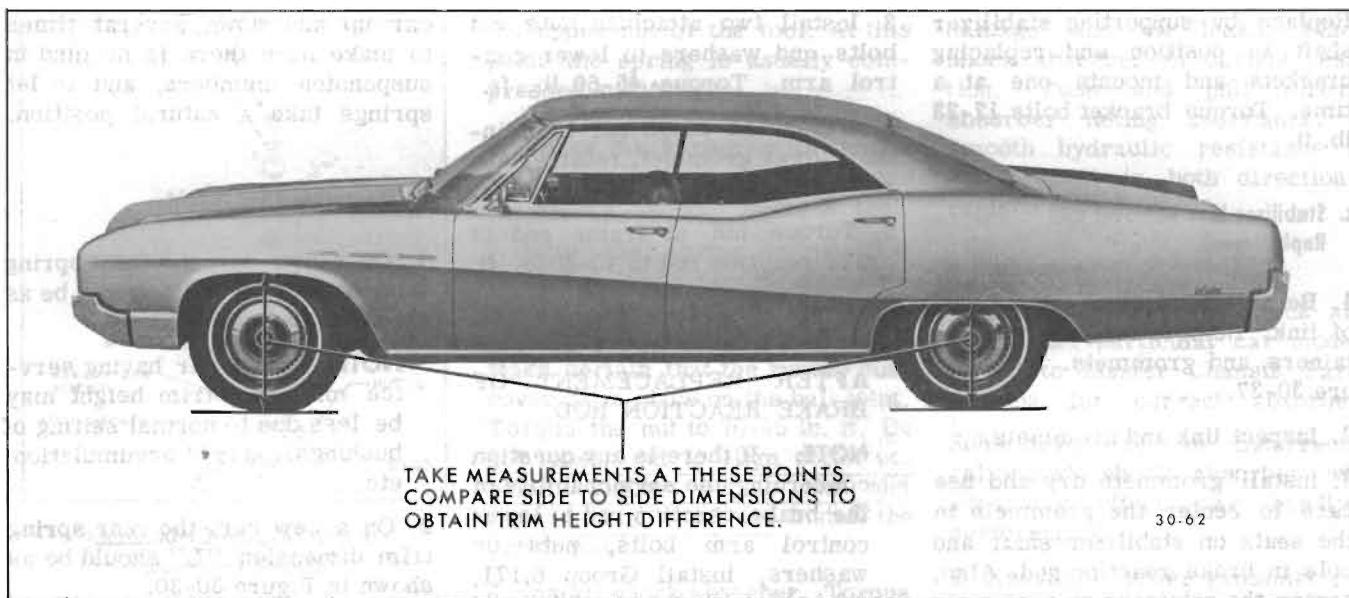

Figure 30-43—Trim Height Side-To-Side Checking Locations
4. When checking side to side differences in trim height at rear, take measurements at rear wheel house openings as shown in Figure 30-43. If shimming is required, see subparagraph c following.